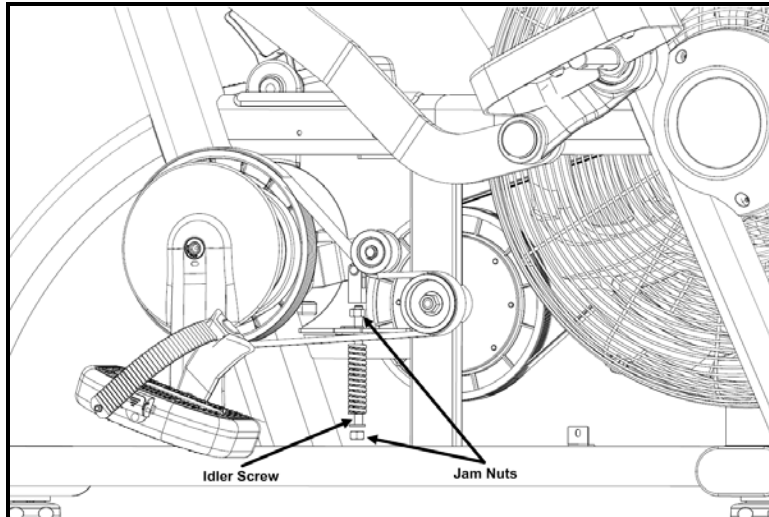

Fig. 6
6. Remove the idler tension spring, screw, and corresponding hardware (Fig. 6) by loosening the jam nut at the bottom of the screw and the jam nut butted to the idler block using a 13mm open end wrench.